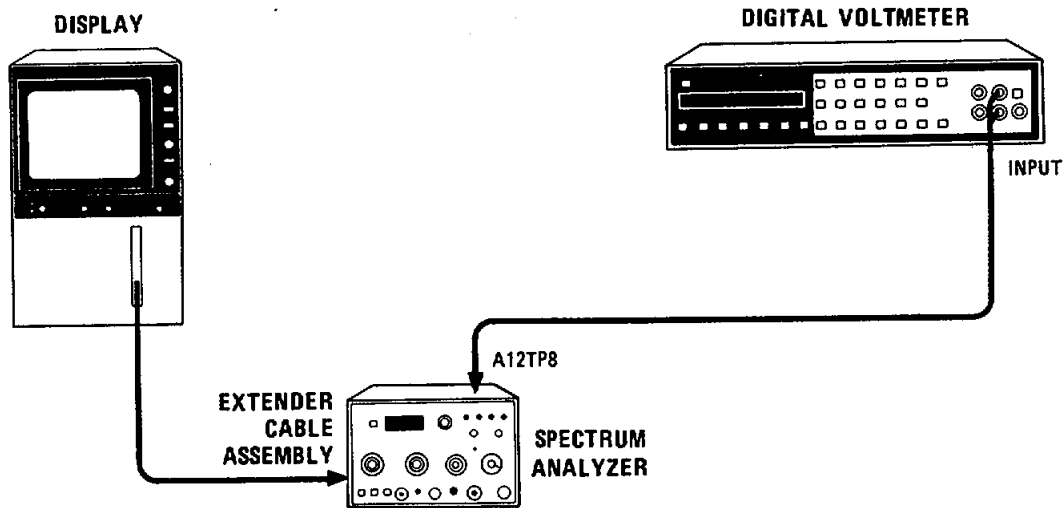

Figure 5-12. +19.5V Adjustment Test Setup
2. Connect equipment as shown in Figure 5-12. Connect digital voltmeter to A12TP8 (left side of A12R7 + 19.5V adjustment).